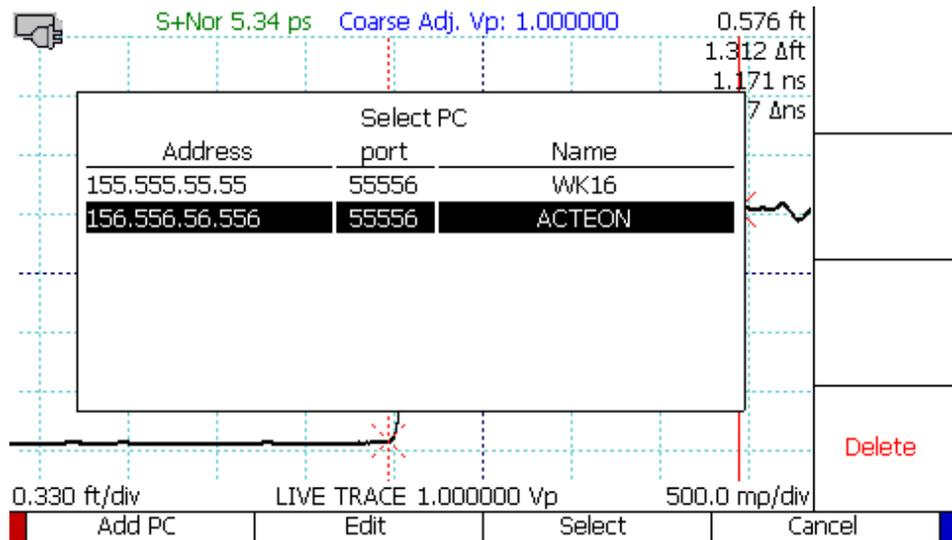

Figure 6.2. Selecting Manual Connect in the Connect to CT Viewer menu will bring up a server menu.
4. Or you can use the *Manual Connect* option to reconnect to a server you have used in the past or one that is not on your local network. See Figure 6.2.